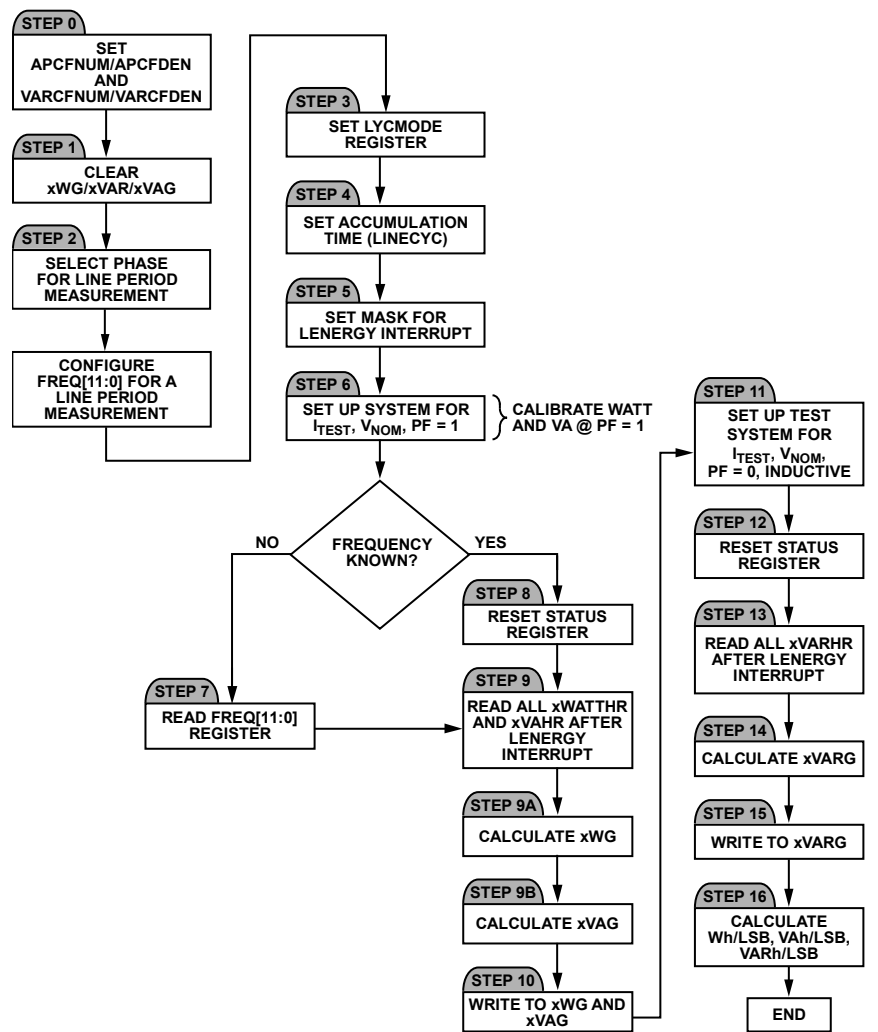

Figure 82. Gain Calibration Using Line Accumulation
Step 0: Before performing the gain calibration, the APCFNUM/APCFDEN (0x45/0x46) and VARCFNUM/VARCFDEN (0x47/0x48) values can be set to achieve the correct impulses/kWh, impulses/kVAh, or impulses/kVARh using the same method outlined in Step 4 in the Gain Calibration Using Pulse Output section. The calibration of xWG/xVARG/xVAG (0x2A through 0x32) is done with the line accumulation mode. Figure 82 shows the steps involved in calibrating the gain registers using the line accumulation mode.